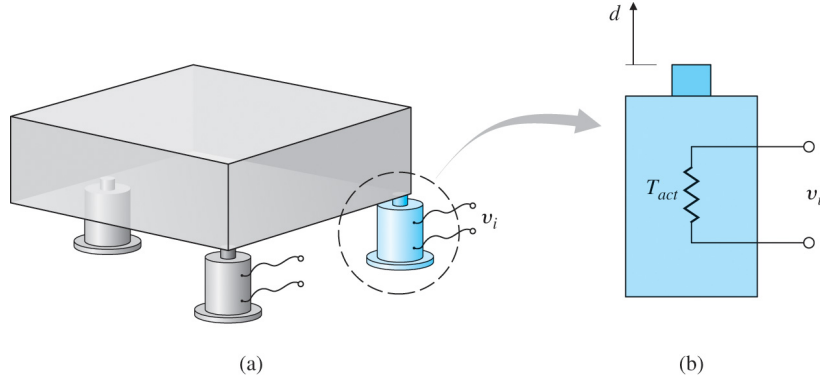

Fig. 2.58 (a) Precision table kept level by actuators; (b) side view of one actuator
25. A precision-table leveling scheme shown in Fig. 2.58 relies on thermal expansion of actuators under two corners to level the table by raising or lowering their respective corners. The parameters are: